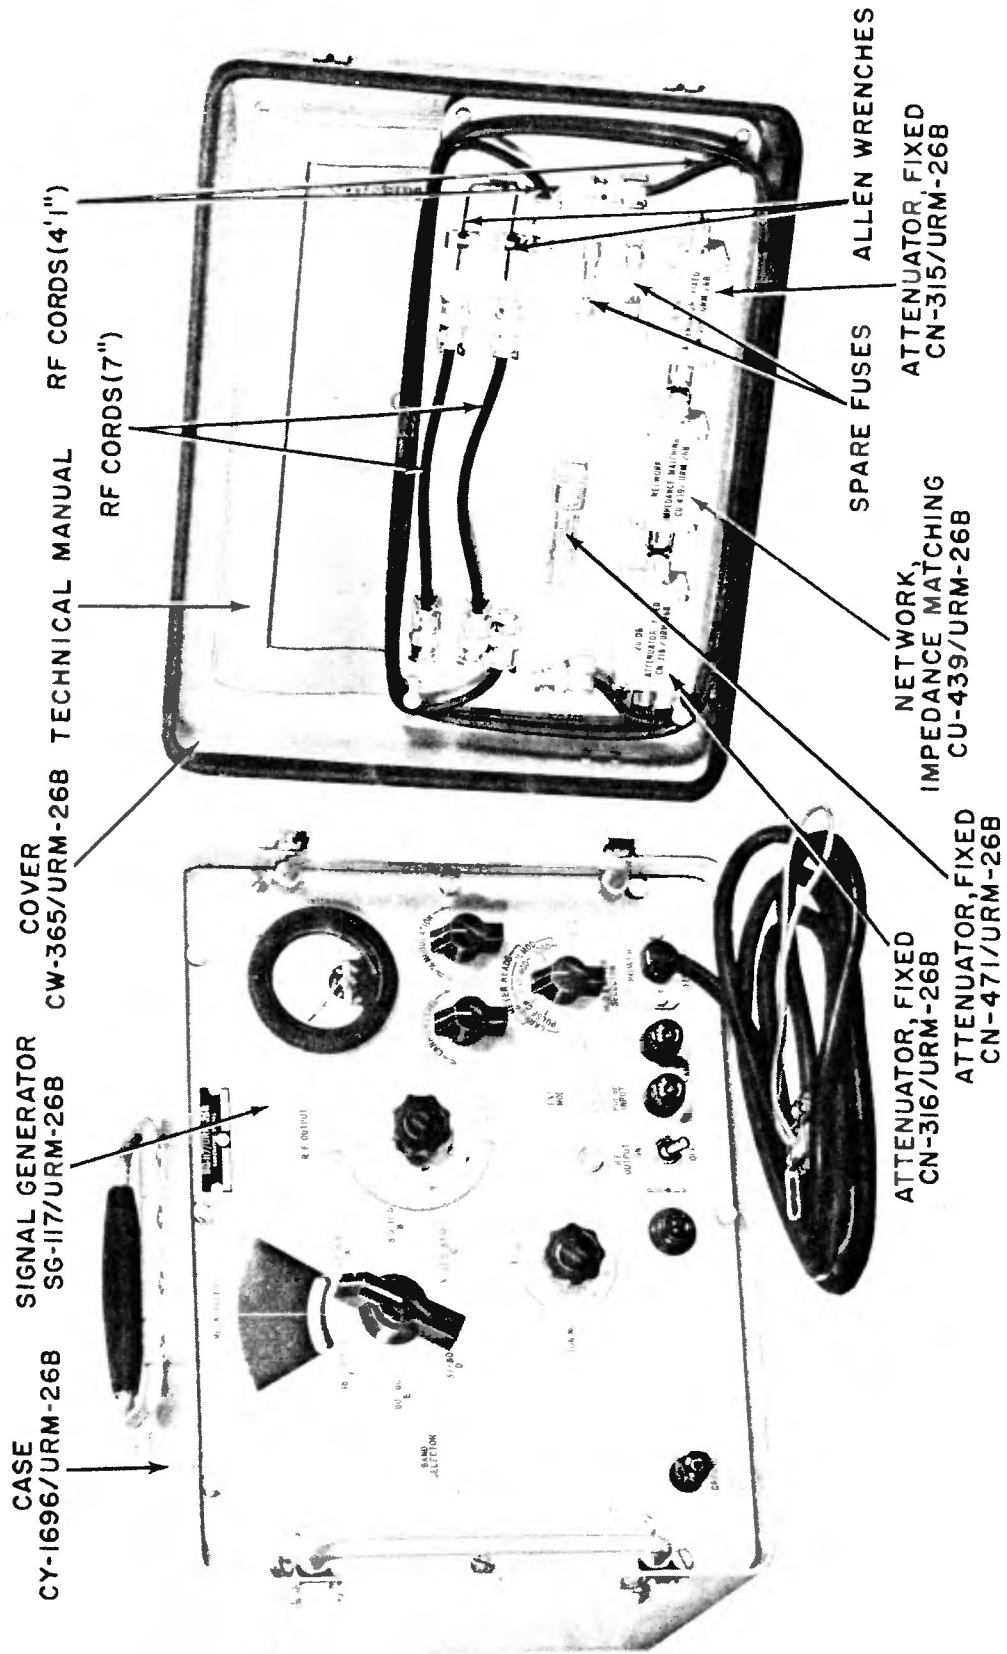

Figure 1-1. RF Signal Generator Set AN/URM-26B, Complete Equipment.
a. Signal Generator SG-117 URM-26B and Power Supply PP-1215/URM-26B are contained within Case CY-1696/URM-26B. All controls, connectors, fuses and the meter of the signal generator are located on the front panel, and are clearly marked for identification by black engraved characters against the grey finish background. Two handles, one on each side of the front panel, serve to facilitate the removal of the signal generator from its case and to protect the panel fixtures from damage. The case has four spring hasps that permit the complete removal of the protective Cover CW-365/URM-26B. The cover includes a plate having spring clips in which the smaller components of the test set are mounted. The cords (rf cables), Allen wrenches and instruction book also are stored in the cover. (See figure 1-1.) Internally the signal generator consists of three major subassemblies:
(1) The radio frequency circuitry which is housed in a rugged cast aluminum shield, and includes the rf oscillator circuit, the waveguide below-cutoff (piston-type) attenuator, and the filter networks which prevent the appearance of rf current in the external circuit wiring.
(2) The audio modulating and metering circuits that are part of a subassembly mounted on the front panel.
(3) The power supply which is built into a sub-chassis assembly bolted in position in the case. Its input and output are connected to the signal generator by a detachable plug and a short length of cable.
h. The coaxial rf cords supplied (see figure 1-1) are used in making connections between the signal generator output and the equipment being tested, and to facilitate the insertion of the impedance adapter and fixed attenuators. Two cords, four feet long and two cords seven inches long are supplied. These cords are terminated at each end in type UG-88/U coaxial connectors.